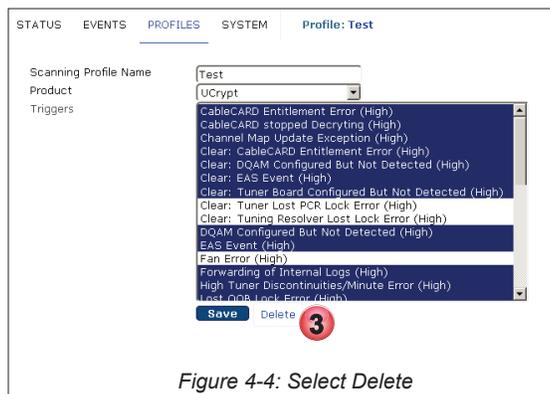

Figure 4-4: Select Delete
3. Click **Delete**, Figure 4-4.